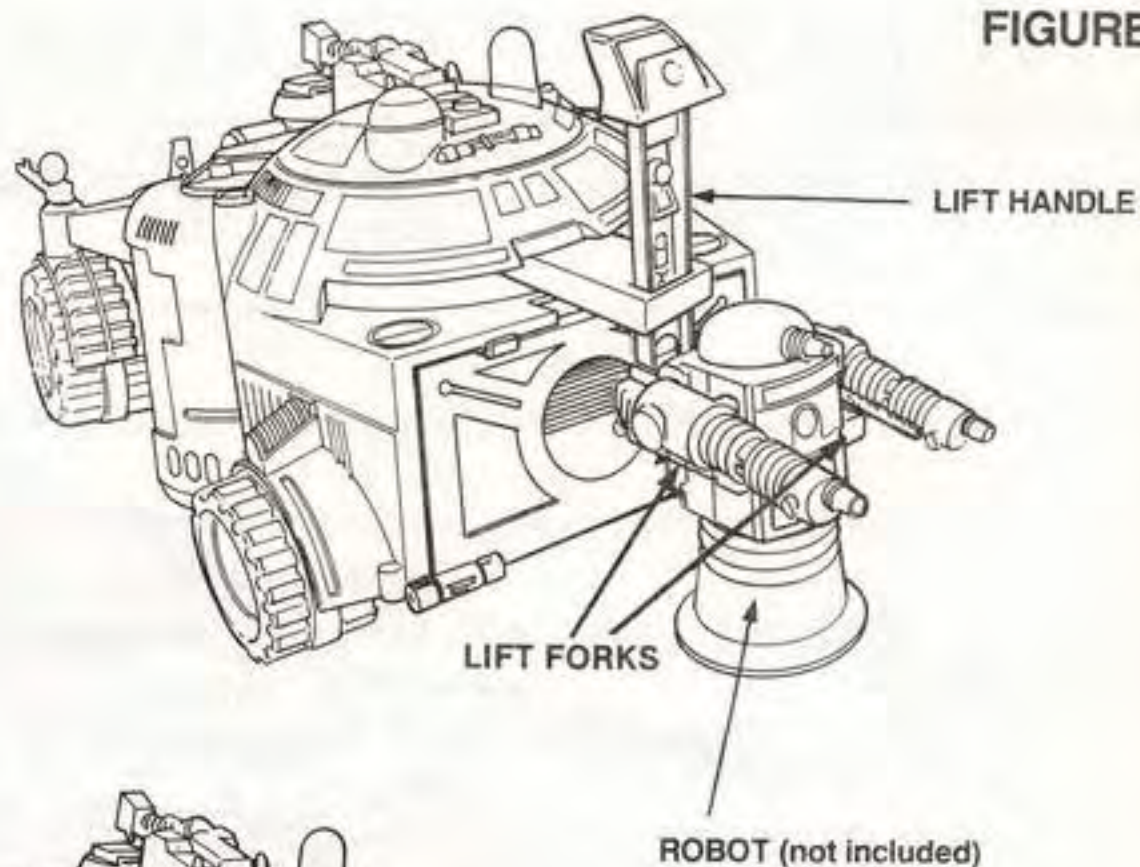

FIGURE 3
1. TO LIFT ROBOT: Pose ROBOT with arms out in front. Place LIFT FORKS under ROBOT'S shoulders as shown. (Figure 3)